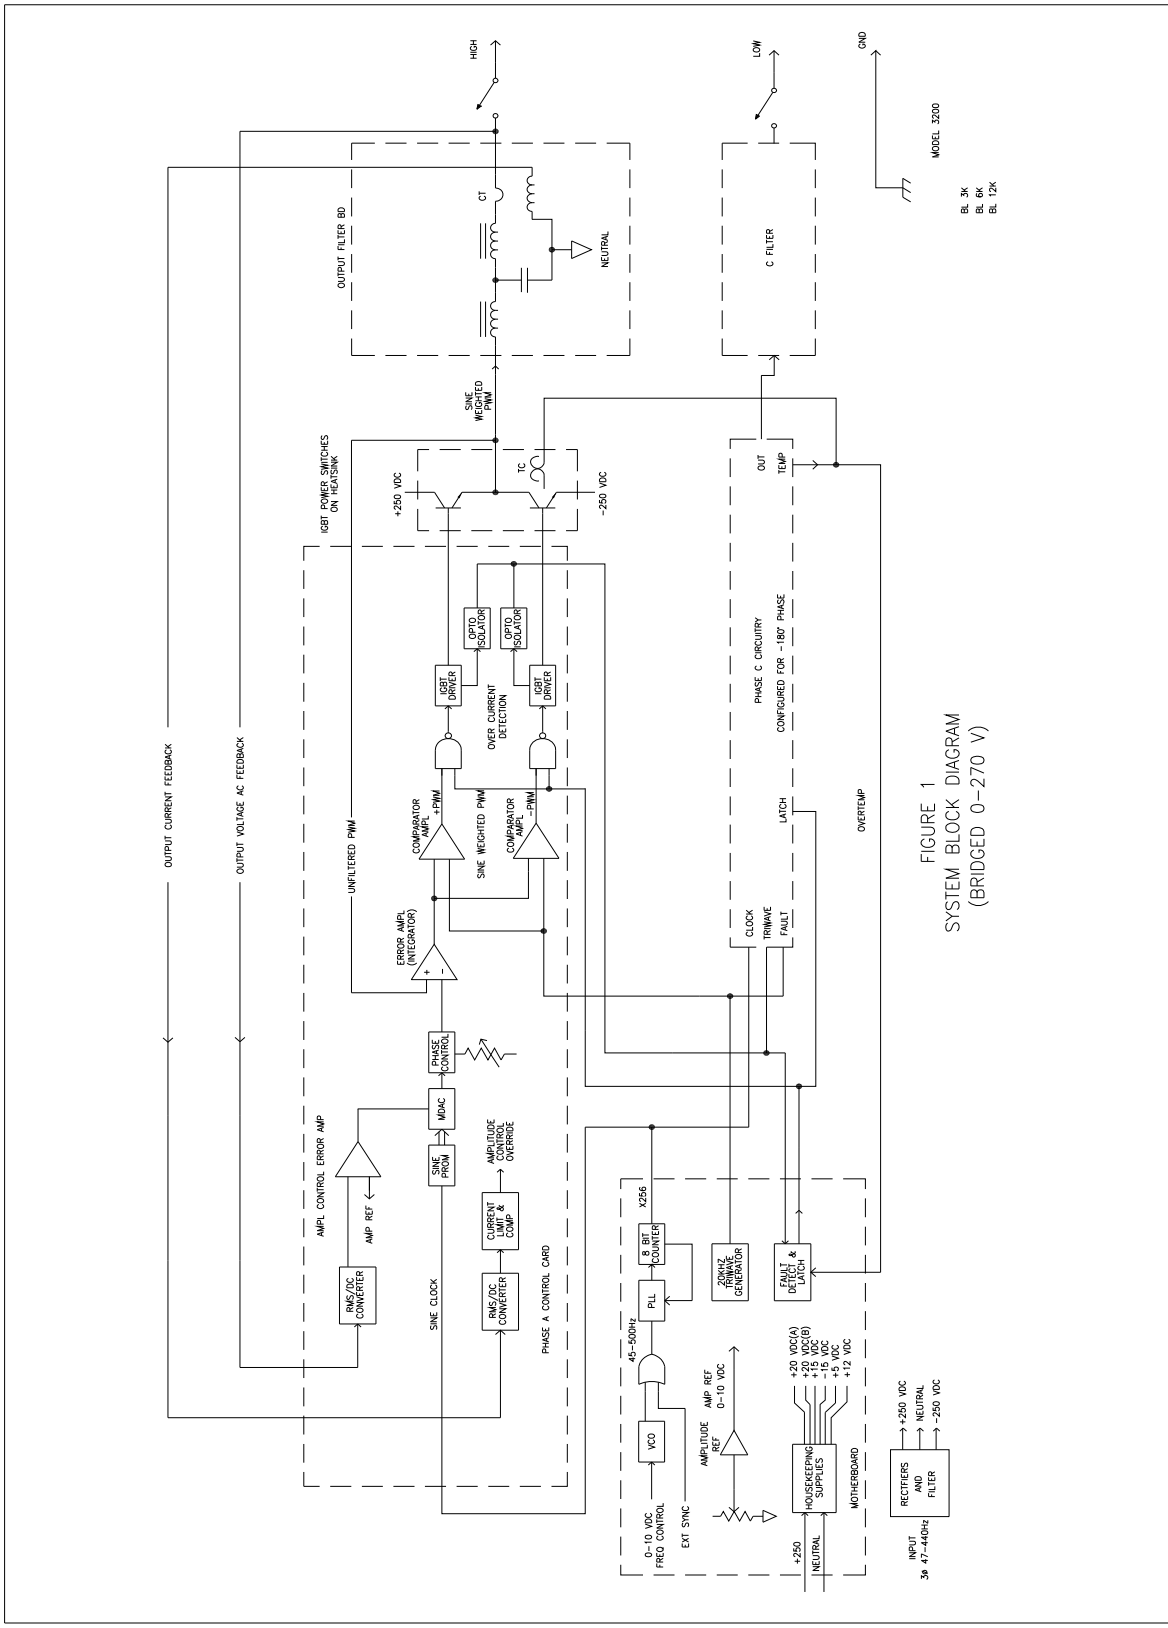

FIGURE 1
5.3.1 The control chassis contains the main power inverters, bias, and control circuitry. The diagram of Figure 1 depicts the basic functional blocks. Note that in the case of the three phase units, only one phase is illustrated as the others are identical. The circuitry is configured so that each of the three "Phase Control Cards" plug into a "Motherboard". The output devices and output filter components are mounted on separate assemblies.